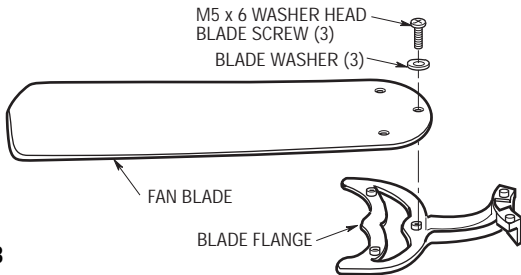

Figure 8
- 10. Mount blade flanges to fan blades using three M5 x 6 washer head blade screws and three blade washers (Figure 8).